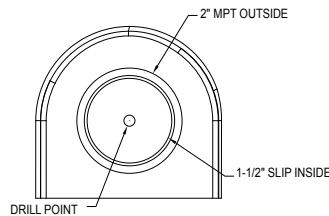

Figure 3.2
1) Adding bathroom fixtures - The Qwik Jon® Ultima is designed to accept bathroom fixtures utilizing the two side inlets. These inlets can be attached via the 2" MPT (outside diameter) or the 1½" slip (inside diameter). These inlets must have the inner portion drilled out using a 44 mm (1¾") hole saw (see Figure 3.2). This is to ensure there are no leakage problems from inlets not in use. When utilizing side inlets, install a check valve on the incoming line.